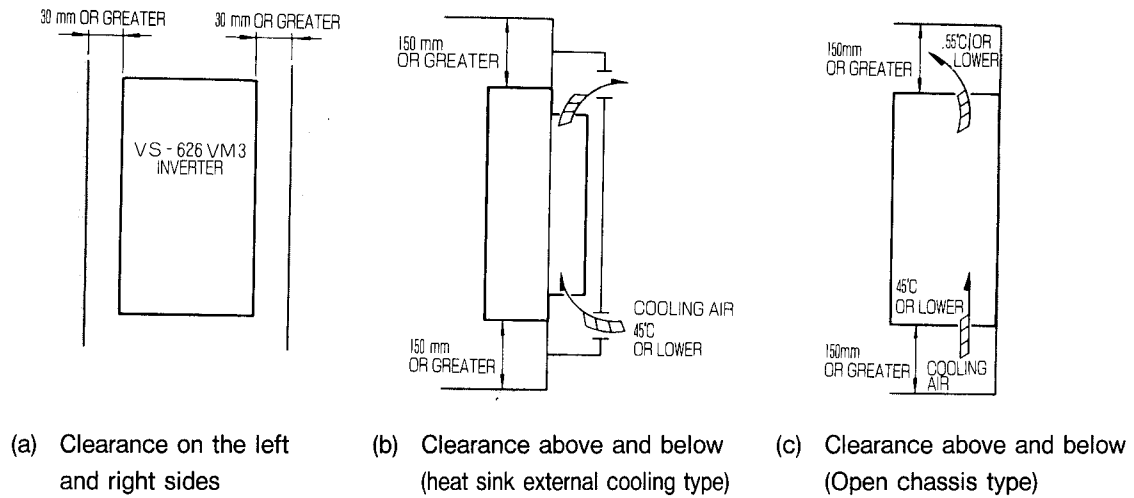

Fig. 11.3 Inverter Installation Space
- (1) The inverter must be kept free from water or oil splashes.
- (2) Avoid direct sunlight.
- (3) Avoid corrosive gases and liquids. Avoid locations where dust or iron powder is abundant.
- (4) The inverter houses the heat sink cooling fan at the rear. Leave 150 mm or greater clearance on the upper (exhaust) and lower (entry) sides of the fan to prevent cooling performance deterioration.
- (5) Although the control panel open-chassis type inverter is operable at 0°C to +55°C, air entering the heat sink must be 45°C or below. See Fig. 11.3.
- (6) For ease of periodical inspection and maintenance, leave space to open and close the PC board frame. Also make clearance of 30 mm or greater from each side panel of the inverter.
- (7) Place sealant at the unit mounting joint to prevent entry of dust.